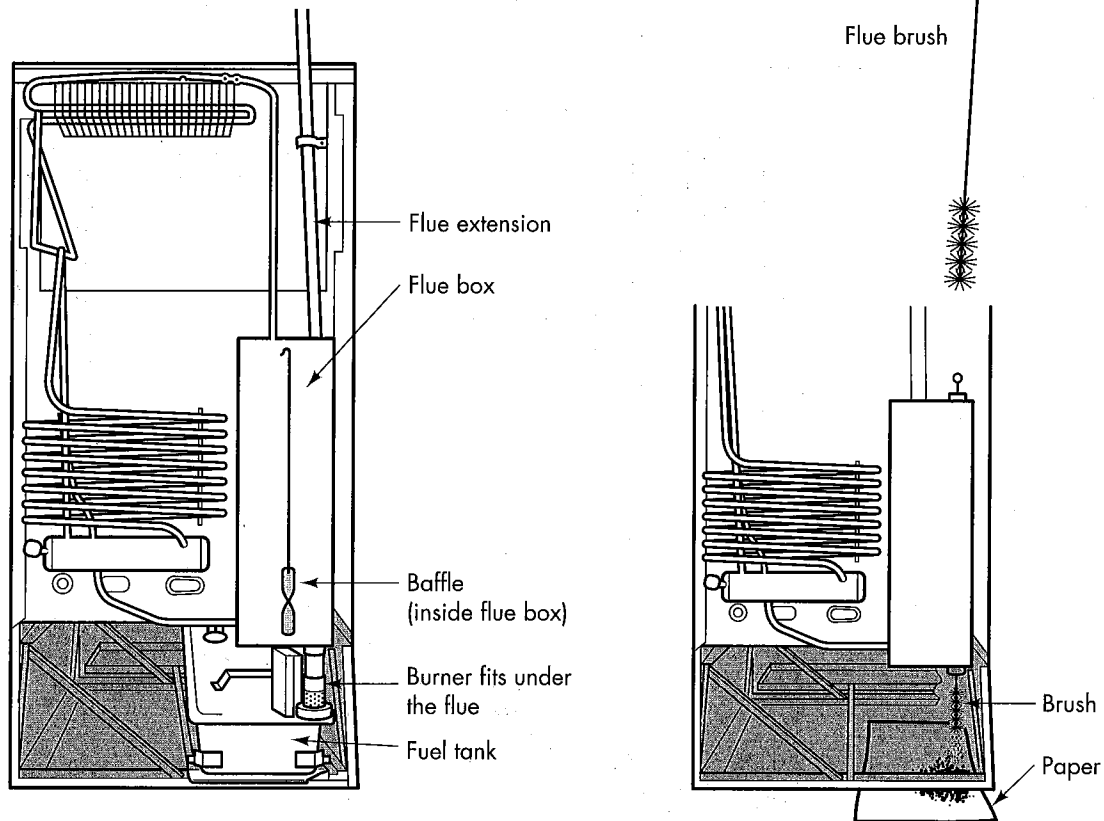

Figure 47: Kerosene refrigerator – cleaning flue and burner
- clean flue, flue box, and burner (Figure 47)